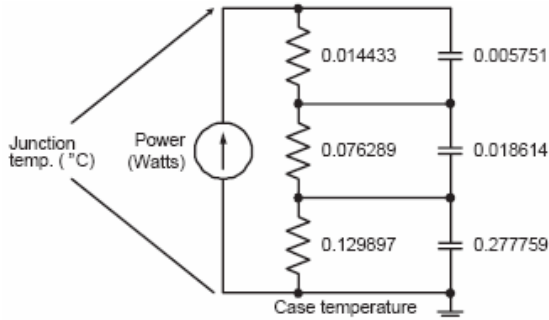

Figure 17 Transient Thermal Impedance RC Model, APT50M75B2LL
junction temperature to settle back down between each pulse. This measures the ‘single pulse’ transient thermal impedance response. From this, a curve fit is used to create a resistor-capacitor (RC) model. Figure 17 shows the thermal impedance RC model for the APT50M75B2LL. There is no physical significance to the intermediate nodes in the model. Various numbers of resistor-capacitor pairs are used simply to create a good fit to actual measured thermal impedance data.
To simulate temperature rise with the RC model, you apply a current source whose magnitude is the power being dissipated. Thus you can use PSPICE or other electronic simulator to apply an arbitrary power loss input. From this, you can estimate the junction-to-case temperature rise as the voltage across the ladder, as shown in Figure 17.